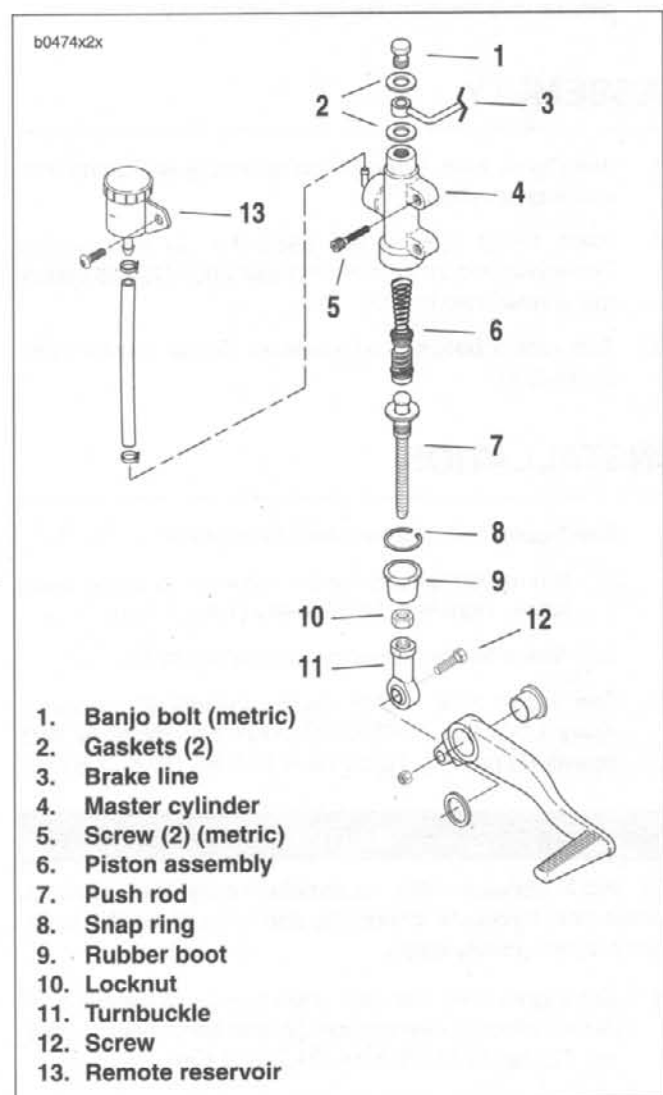

Figure 2-44. Rear Master Cylinder Assembly
2. See Figure 2-44. Remove banjo bolt (1) (metric) and two gaskets (2) to detach brake line (3) from master cylinder (4). Discard gaskets.
3. See Figure 2-44. Connect brake line (3) to master cylinder (4) with two **new** gaskets (2) and banjo bolt (1) (metric). Tighten to 16-20 **ft-lbs** (21.7-27.1 Nm).